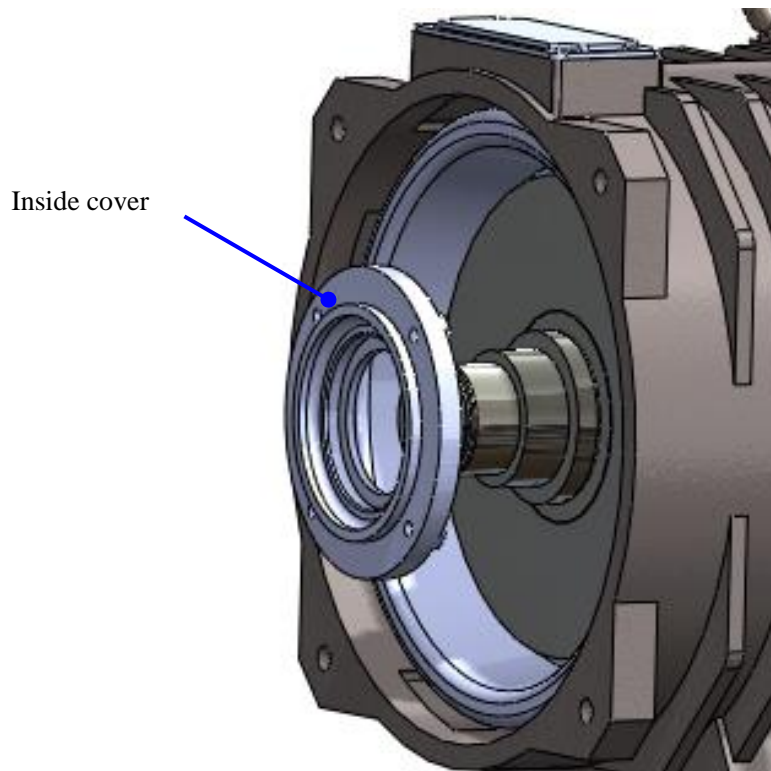

Figure 104: Install Inside cover
1. Put the Inside cover on the shaft. See Figure 104.